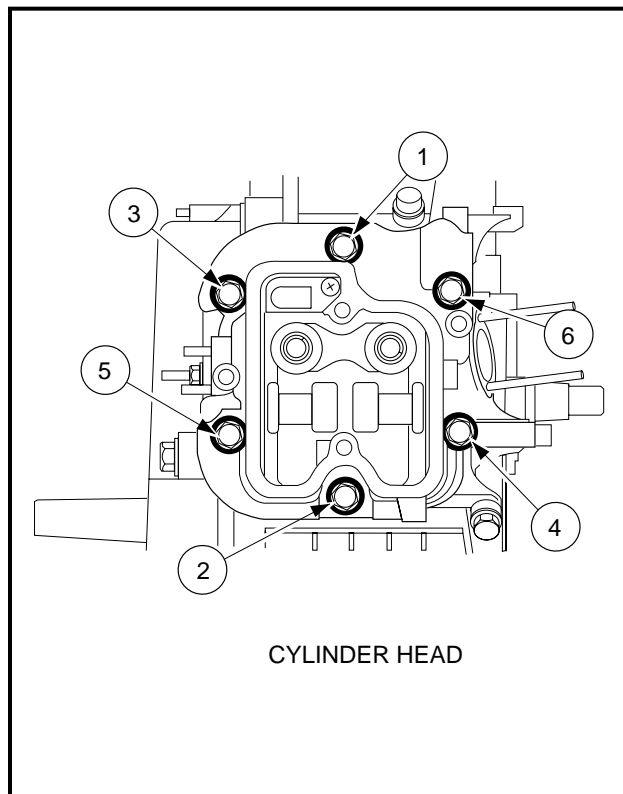

Figure 13-38 Bolt Torque Sequence
6. Using a torque wrench, tighten the six bolts in the sequence shown (**Figure 13-38, Page 13-20**). Increase the torque in four increments of 50 in-lb (6 N·m) and then tighten to final torque of 220 in-lb (25 N·m). **See following CAUTION.**